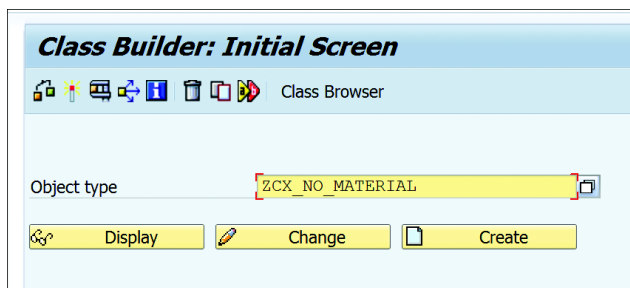

Figure 9.14 Class Builder: Initial Screen
1. Enter the name of the exception class on the Class Builder initial screen (Transaction SE24) and click the `CREATE` button. The name of the exception class should start with `ZCX_`, as shown in Figure 9.14.